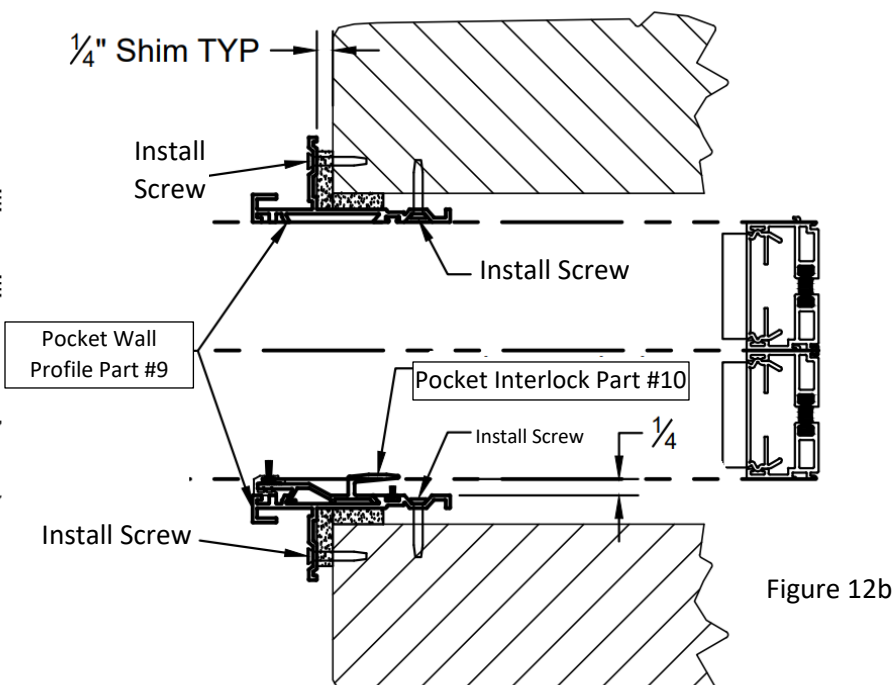

Figure 12b
17. Once the frame is installed, install the Pocket Wall Profiles (Part #9) leaving a 1/4" gap between the frame and the pocket wall profile with the pocket interlock (Part #10) as shown in figure 12b. Install screws through the screw races to secure the pocket wall profile. Screws should be spaced every 18". Once the pocket wall profiles have been installed, install the pocket panel and make roller adjustments for smooth operation.